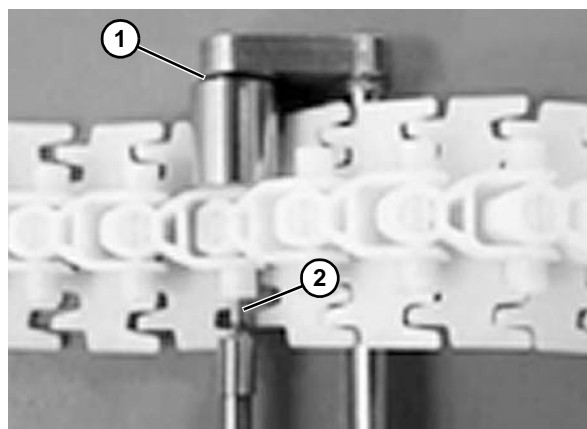

Figure 51
3. Line the FlexMove chain tool (**Figure 51, item 1**) up with the pin (**Figure 51, item 2**). Slowly depress the trigger until the pin seats. A slight detent will be felt when pin is seated.